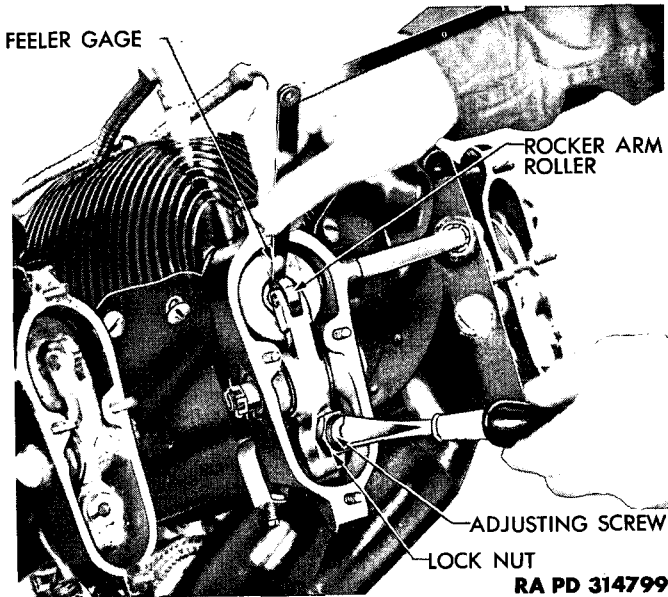

Figure 239 — Adjusting Valve Clearance Using Gage 41-G-412-75
(1) **ADJUST NO. 1 CYLINDER VALVE CLEARANCE.** Turn crankshaft in a counterclockwise direction until the No. 9 intake valve just begins to open (fig. 238). Tap push rod ends of both No. 1 cylinder rocker arms with fiber mallet. Adjust valve tappet clearance between the rocker arm roller and valve stem for the No. 1 cylinder intake and exhaust valves by turning rocker arm adjusting screw in or out until a clearance of 0.070 inch is obtained. Measure clearance with feeler gage (fig. 239). Wash grease from hands, and from rocker arm rollers with dry-cleaning solvent. Press rocker arm adjusting